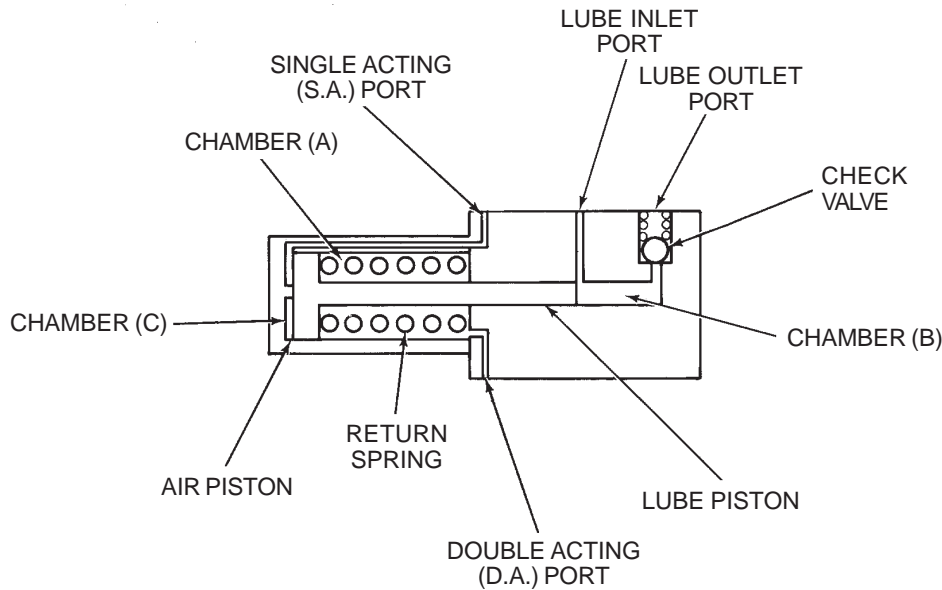

Figure 3-1. Typical Pump Operation
3.1.1.2 Operating sequences for single-acting and double-acting pumps are listed below. Figure 3-1 shows a sectional view of a typical pump and will help in understanding pump operation.
a. With single-acting models, air under pressure is supplied through the inlet port (SA) to chamber (C). This moves the air and lube pistons to the right. This closes the lube inlet port and forces the lubricant already in chamber (B) past the check valve and into the system. Air in chamber (A) must vent out port (DA). A plastic pipe plug with a vent hole is installed in port (DA). After a preset time interval the solenoid valve shuts off the air supply and vents chamber (C) through port (SA). The spring returns the air and lube pistons, opening chamber (B) to the lube reservoir. This completes a